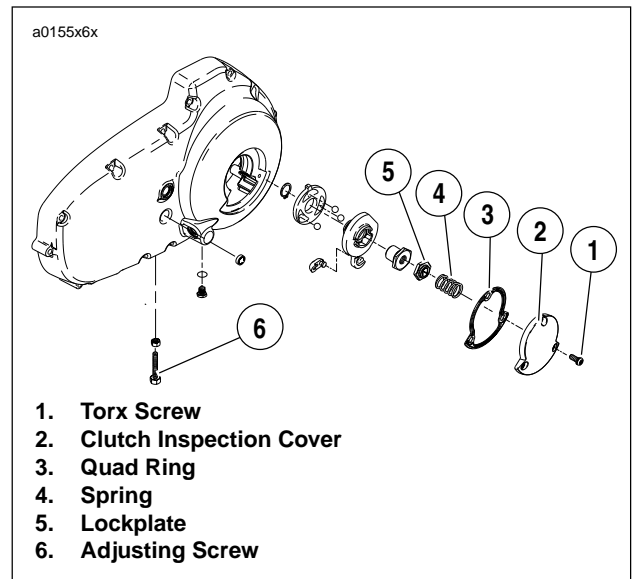

Figure 6-14. Clutch Release Mechanism
4. See Figure 6-14. Remove three TORX screws with washers (1) from clutch inspection cover (2). Remove clutch inspection cover from primary cover.
Quad ring removed from primary cover for illustrative purposes only in Figure 6-14.
9. See Figure 6-14. Install clutch inspection cover and new gasket with three TORX screws with washers. Tighten in a crosswise pattern to 7-9 ft-lbs (10-12 Nm).